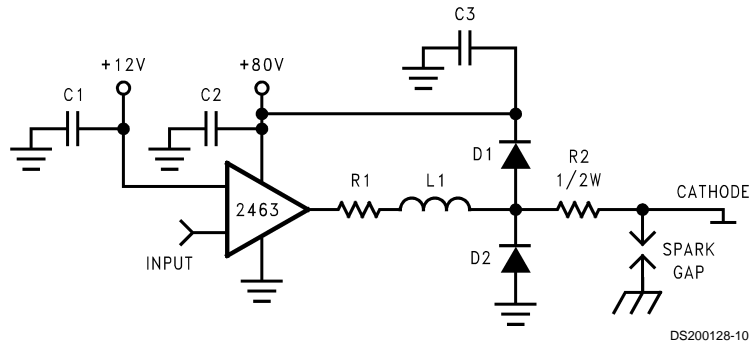
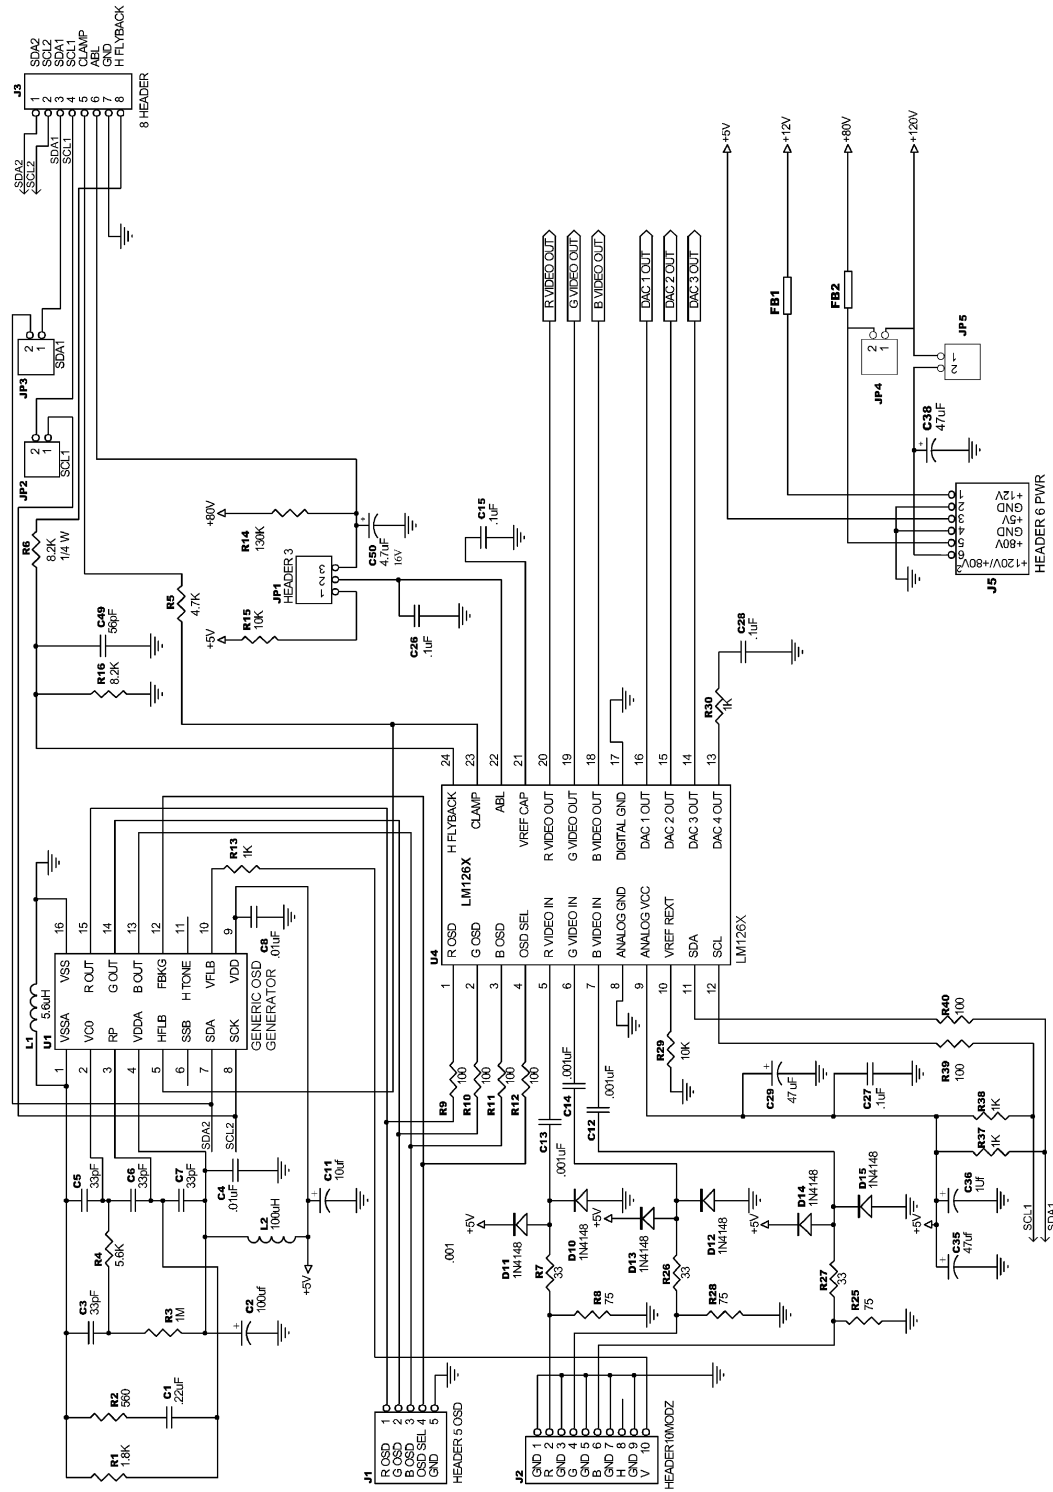

FIGURE 9. One Channel of the LM2463 with the Recommended Arc Protection Circuit
FIGURE 10. LM126X/LM246X Demonstration Board Schematic
voltage, but to a value that is much higher than allowable on the LM2463. This fast, high voltage, high energy pulse can damage the LM2463 output stage. The application circuit shown in *Figure 9* is designed to help clamp the voltage at the output of the LM2463 to a safe level. The clamp diodes, D1 and D2, should have a fast transient response, high peak current rating, low series impedance and low shunt capacitance. FDH400 or equivalent diodes are recommended. Do not use 1N4148 diodes for the clamp diodes. D1 and D2 should have short, low impedance connections to  $V_{CC}$  and ground respectively. The cathode of D1 should be located very close to a separately decoupled bypass capacitor (C3 in *Figure 9*). The ground connection of D2 and the decoupling capacitor should be very close to the LM2463 ground. This will significantly reduce the high frequency voltage transients that the LM2463 would be subjected to during an arcover condition. Resistor R2 limits the arcover current that is seen by the diodes while R1 limits the current into the LM2463 as well as the voltage stress at the outputs of the device. R2 should be a  $\frac{1}{2}\text{W}$  solid carbon type resistor. R1 can be a  $\frac{1}{4}\text{W}$  metal or carbon film type resistor. Having large value resistors for R1 and R2 would be desirable, but this has the effect of increasing rise and fall times. Inductor L1 is critical to reduce the initial high frequency voltage levels that the LM2463 would be subjected to. The inductor will not only help protect the device but it will also help minimize rise and fall times as well as minimize EMI. For proper arc protection, it is important to not omit any of the arc protection components shown in *Figure 9*.
Referring to *Figure 9*, there are three components (R1, R2 and L1) that can be adjusted to optimize the transient response of the application circuit. Increasing the values of R1 and R2 will slow the circuit down while decreasing overshoot. Increasing the value of L1 will speed up the circuit as well as increase overshoot. It is very important to use inductors with very high self-resonant frequencies, preferably above 300 MHz. Ferrite core inductors from J.W. Miller Magnetics (part # 78FR--k) were used for optimizing the performance of the device in the NSC application board. The values shown in *Figure 10* and *Figure 11* can be used as a good starting point for the evaluation of the LM2463. Using a variable resistor for R1 will simplify finding the value needed for optimum performance in a given application. Once the optimum value is determined, the variable resistor can be replaced with a fixed value.
A typical application of the LM2463 is shown in *Figure 10* and *Figure 11*. Used in conjunction with an LM1263, a complete video channel from monitor input to CRT cathode can be achieved. Performance is ideal for 1600 x 1200 resolution displays with pixel clock frequencies up to 180 MHz. *Figure 10* and *Figure 11* are the schematic for the NSC demonstration board that can be used to evaluate the LM126X/2463 combination in a monitor.
*Figure 12* shows the routing and component placement on the NSC LM126X/2463 demonstration board. The schematic of the board is shown in *Figure 10* and *Figure 11*. This board